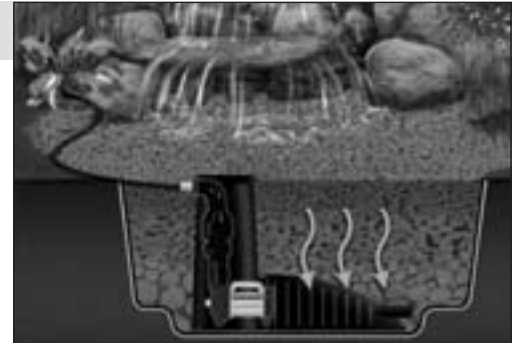

Fig. 2 Pondless® Waterfall Detail.
- To eliminate the frozen and potentially broken PVC flex pipe, the pipe should be sloping down from the waterfall to the Pondless® Vault to help drain as much water from the line as possible. (See fig. 2)